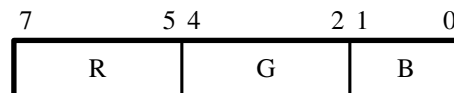

Figure 11. 8-bit RGB Color Space.
- 8-Bit RGB — This format uses 3 bits for red, and 3 bits for green and 2 bits for blue as shown in Figure 11. This mode is defined as 8 bits per color and one color plane.